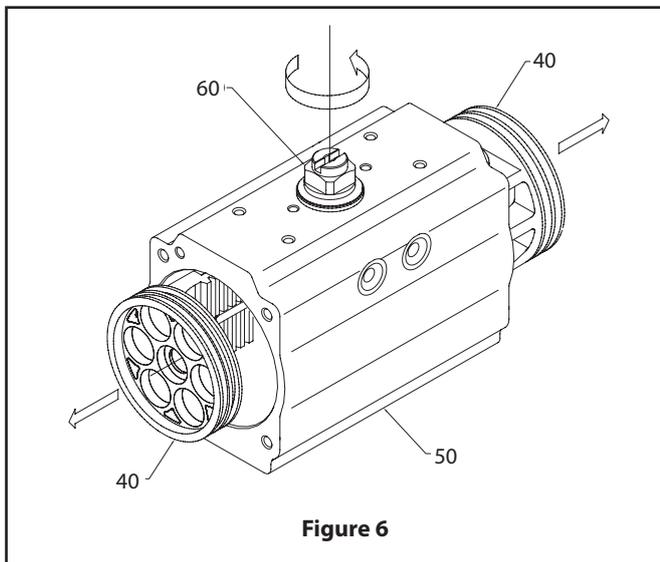

Figure 6
- C. Remove end-cap o-rings (14) and discard if replacing all soft parts.
**4. Piston (40) Disassembly, (Figure 6):**
- A. Holding the body (50) in a vice (or similar device), rotate the drive shaft (60) until the pistons (40) are released. **CAUTION: Air Pressure should not be used to remove the pistons from the body.** Clean and inspect the piston teeth for signs of wear. Replace piston if wear seems excessive.
- B. Remove piston o-ring seal (16) using a screwdriver. Remove the piston head (15) and piston back (5) bearings. Discard bearings if replacing all soft parts.